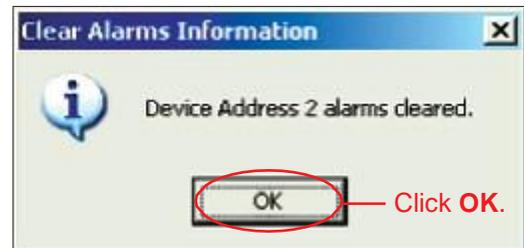

Figure 10-4. Alarms Cleared.
3. After all alarms have been cleared for the device, a pop-up notification will display to notify the user that all alarms are clear (Figure 10-4).
4. Click **OK** to dismiss the **Clear Alarms** pop-up notification (Figure 10-4).